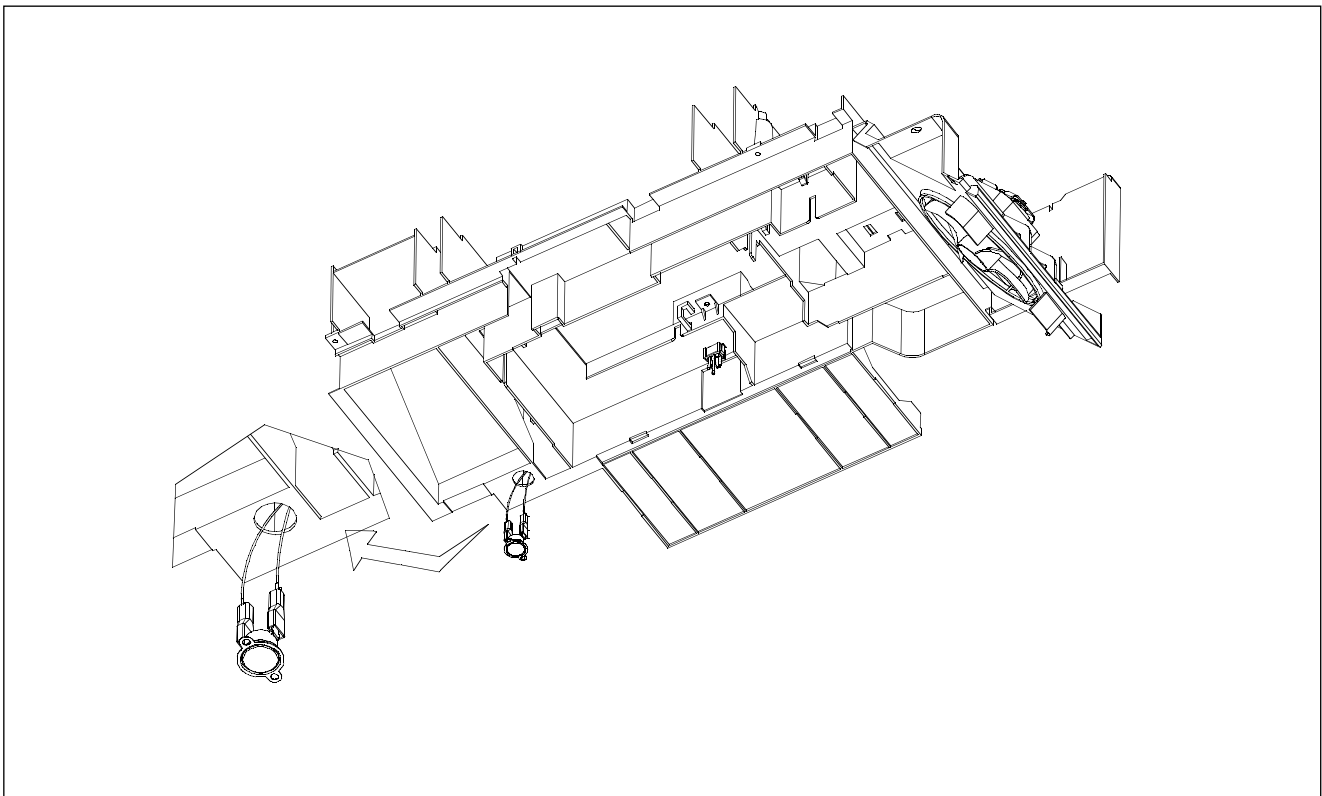

FIG. 13-2
7. Unplug and replace the two wire connectors from the cavity thermostat. (See FIG. 13-2)